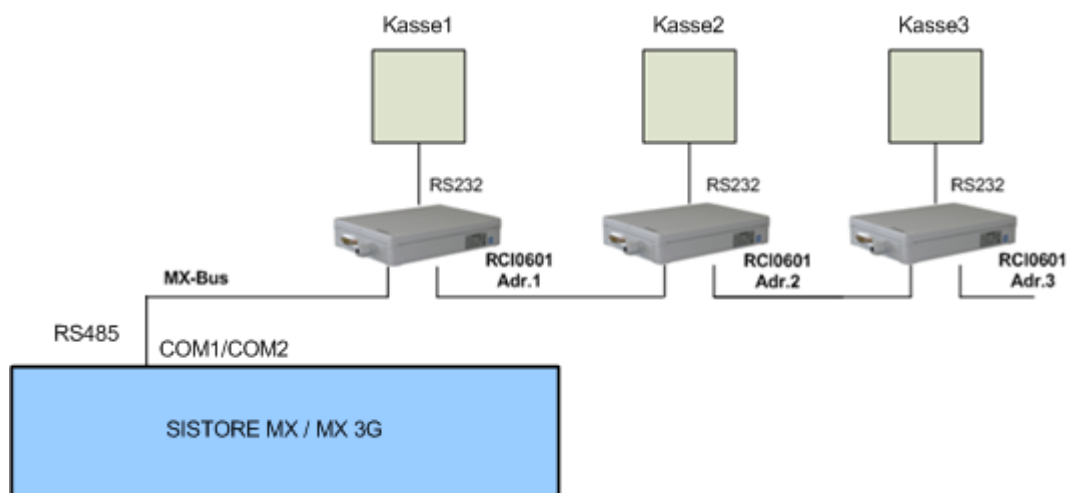

Fig. 26 MX Multi-Channel Box RCI 0601 and cash box system – system overview
1. Connect the MX Multi-Channel Box(es) to the SISTORE unit (see Fig. 26).